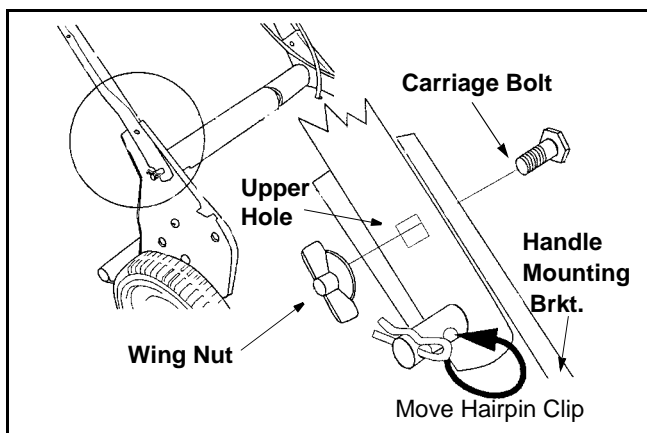

Figure 4
- Remove the hairpin clips from the outer hole in the weld pins on the handle bracket assemblies. Using a pair of pliers, squeeze one leg of the lower handle against the handle bracket assemblies. Insert the hairpin clip into the inner hole on the weld pin. Repeat on other side. See Figure 4.
- After you have moved the hairpin clip, install the carriage bolt, (carriage bolt must go to the inside of handle) included in the hardware pack, in the upper hole on the handle mounting bracket. Secure with one plastic wing nut, also included in the hardware pack. See Figure 4. Repeat process on other side.